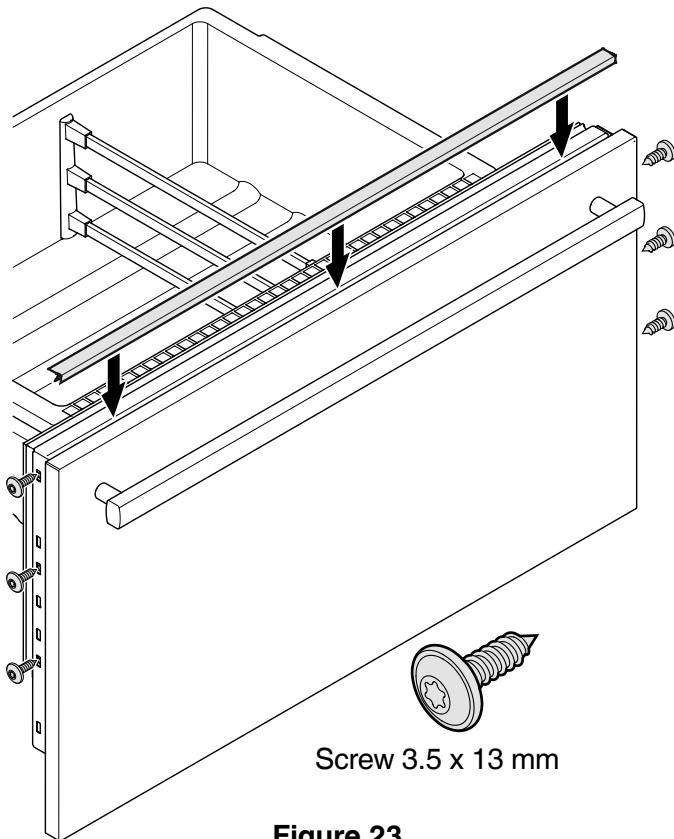

Figure 23
4. Finally cover the gap between the drawer and the panel of both freezer drawers with the strips provided. Remove the foil from the adhesive surface of the strip and stick on the top of the appliance drawer (**Figure 23**) making sure the flexible gasket is fully inserted in the gap.